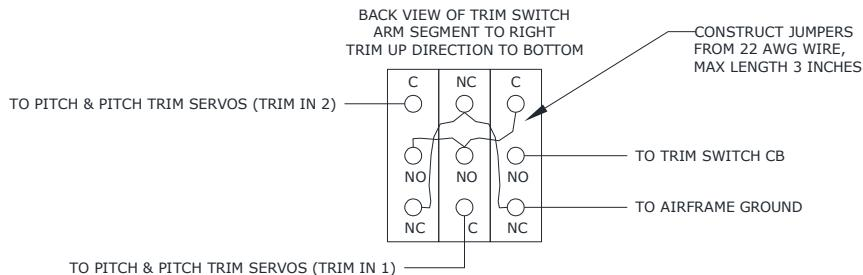

Figure A-8 – Trim Switch Wiring
- 5 REFER TO FIGURE A-8 FOR DISCONNECT SWITCH WIRING DETAILS.